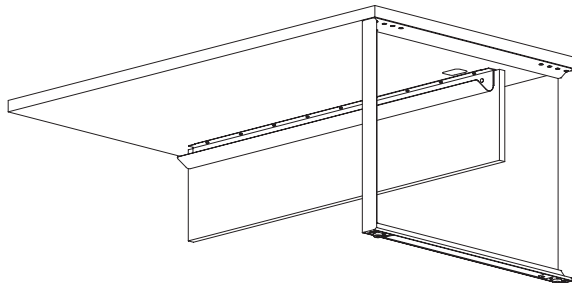

Fig. 1
1. See installation instruction of suspended modesty (6TP00089) for assembly details. (Fig. 1)